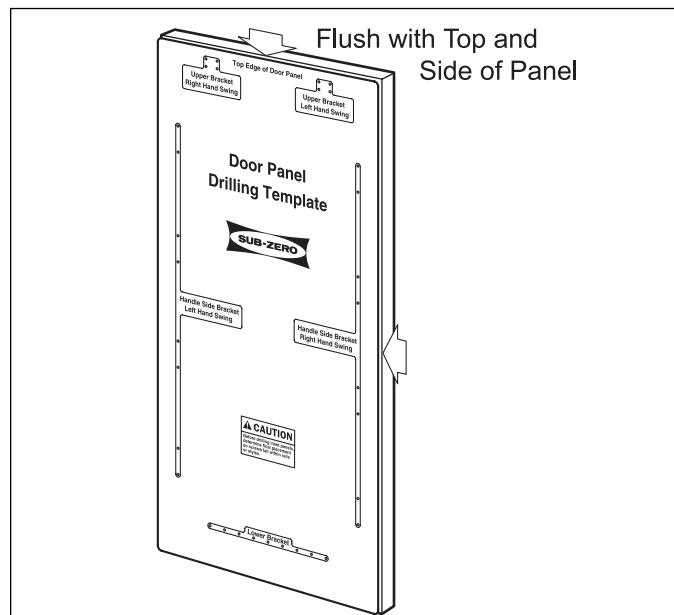

Figure 2-8. Door Panel Drilling Template & Panel
2. Position plastic drilling template (provided with unit) on back of door panel, flush with upper edge and side of door panel. (See Figure 2-8)
NOTE: The size of the panel shown in Figure 2-8 is just large enough to cover the door. Actual door panel sizes may vary depending on design/installation variations.